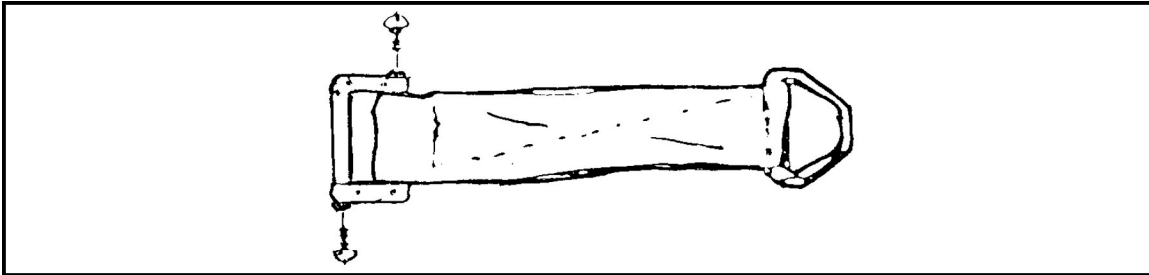

Figure 12-5. Lowering line adapter web.
- a. The adapter web is attached by removing the screws from the L-bar connector link and removing the assembly from the web. The free end of the web is threaded through the left D-ring of the parachute harness and between the L-bar and main lift web. The link assembly is reattached through the loop on the free end of the adapter web and around the main lift web, and the screws are securely reset (Figure 12-5).